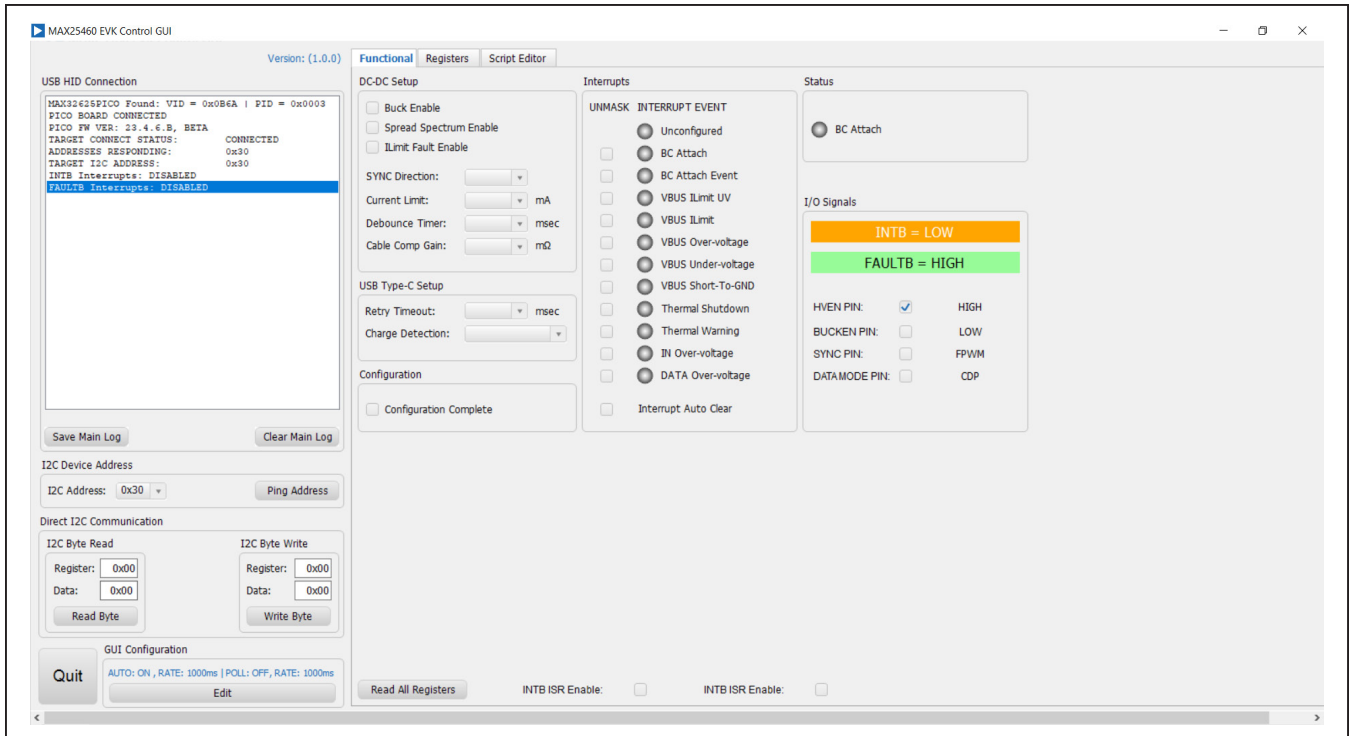

Figure 2. MAX25460 GUI Startup
- 8) Start the MAX25460 GUI. Look at the message bar on the left of the GUI to verify that the EV kit is detected (see Figure 2).